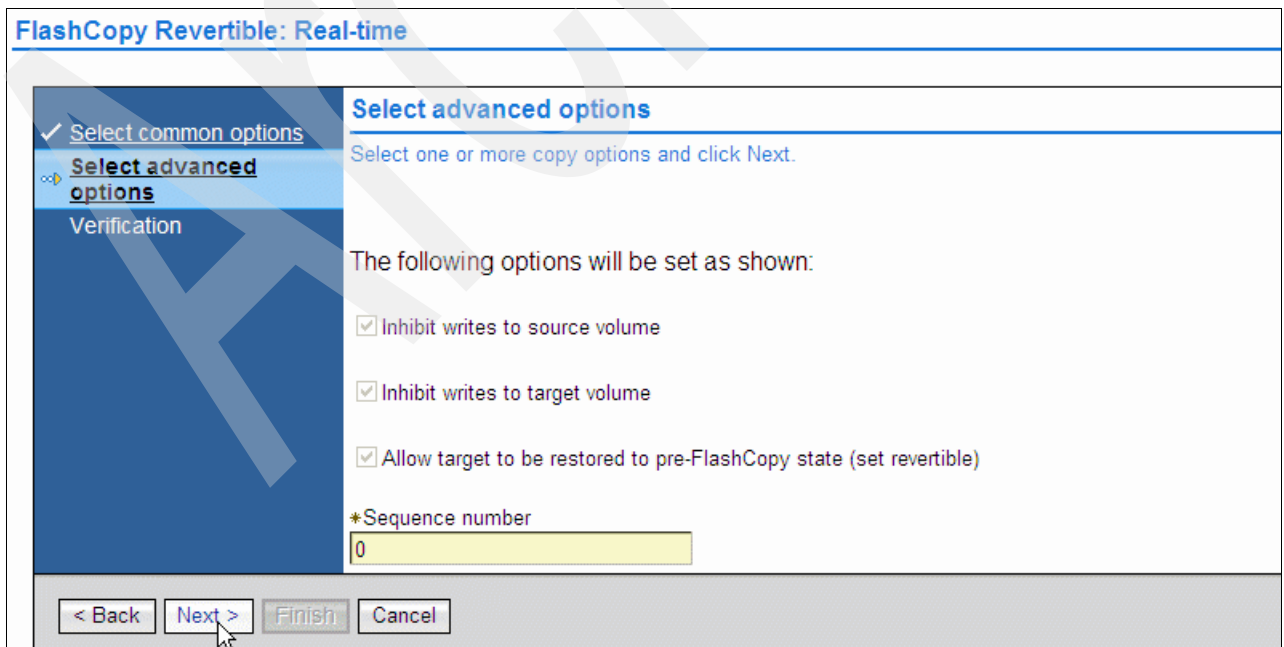

Figure 13-11 Advanced functions of FlashCopy Revertible
3. Enabling the FlashCopy Revertible option can impact the ability to use more advanced options. In the Select advanced options panel (Figure 13-11), you can see that because of previous selections, no advanced options are available. You can enter only the sequence number. Click **Next** to continue.